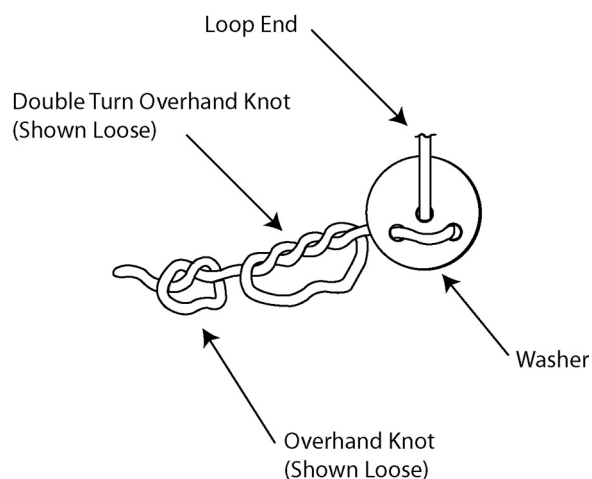

Figure 8. Routing and Tying of the Closing Loop
a. Route closing loop per illustration (Figure 8).
c. On the back side, form a double overhand knot (Figure 8).
e. Form an overhand knot behind the double overhand knot (Figure 8).
h. Verify 2 1/4 ± 1/8-in. from washer to loop end. (QA)